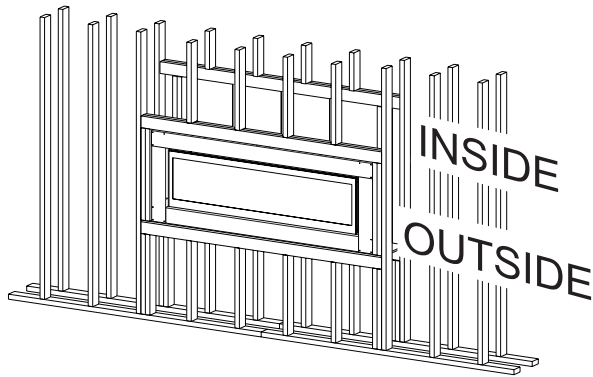

Figure 11
1. The stainless may be covered in full or in part by a non-combustible stone, tile or other finishing material. It is recommended that the outer perimeter face of the outdoor kit be covered with non-combustible finishing material. See Figure 11.